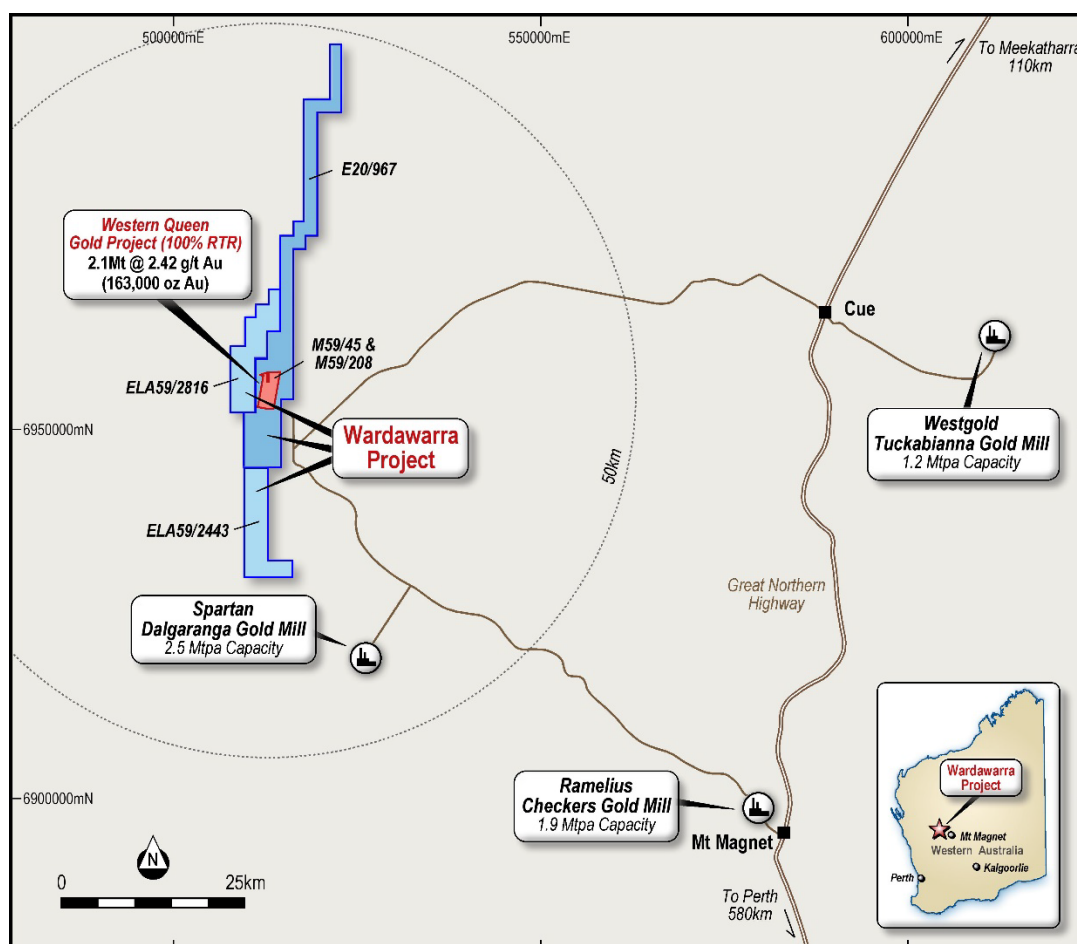

Figure 3 – Location Plan of the Western Queen Gold Project
Contouring of the pXRF tungsten (W) drill hole results has highlighted the following (refer to Figure 3):
The Project is located within a 100km radius of three operating gold processing mills (see Figure 3). The closest mill is the Dalgaranga Mill (48km by road) which has a capacity of 2.5 Mtpa. The Checkers Mill (Mt Magnet) has a capacity of 1.9 Mtpa and the Tuckabianna Mill has a capacity of 1.2 Mtpa. The two mined deposits at the Western Queen Gold Project have a combined historic production of 880,000t @ 7.6 g/t Au for 215,000oz. The Western Queen (Central) Mine produced 660,000t @ 8.9 g/t Au for 189,500oz and the Western Queen South Mine (from two stages) produced 220,000t @ 3.6 g/t Au for 25,500oz.